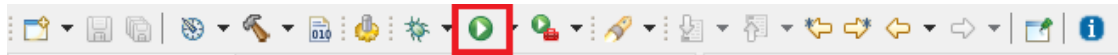

Figure 35: *STM32CubeIDE* menu icons - Run
7. If your target is connected to the computer click **Run** → **Run** or click on the *Run* icon as seen in Figure 35. The program is now transferred to the target and is automatically started.